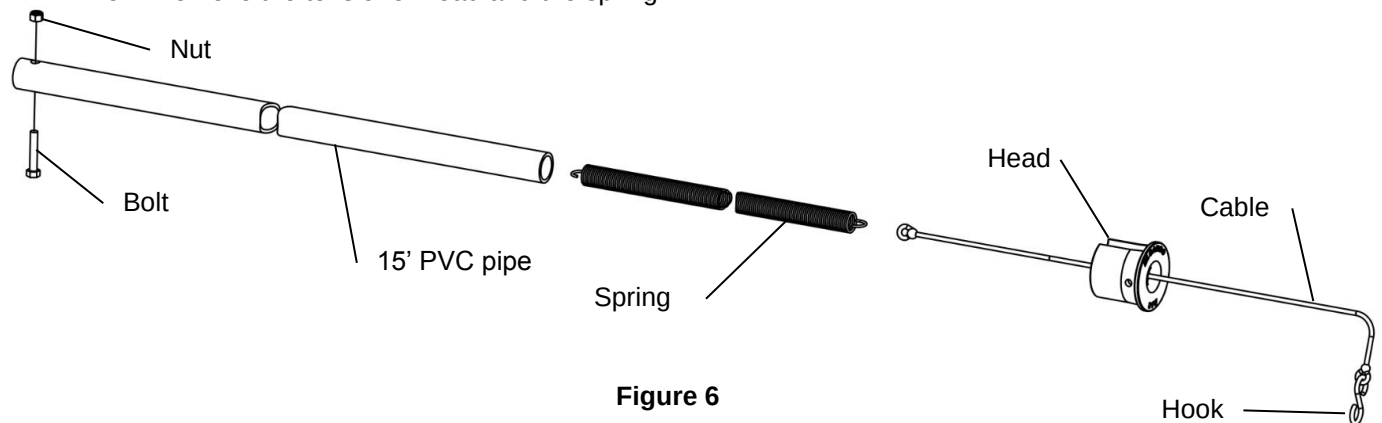

Figure 6
4. **Figure 6.** Remove the nut and the bolt on the extremity of the tensioner.